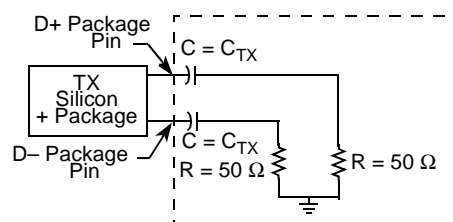

Figure 16. Test Measurement Load
Notes: <ol style="list-style-type: none"> <li>1. No test load is necessarily associated with this value.</li> <li>2. Specified at the measurement point into a timing and voltage test load as shown in Figure 16 and measured over any 250 consecutive Tx UIs.</li> <li>3. A <math>T_{TX-EYE} = 0.75</math> UI provides for a total sum of deterministic and random jitter budget of <math>T_{TX-NAX-JITTER} = 0.25</math> UI for the transmitter collected over any 250 consecutive Tx UIs. The <math>T_{TX-EYE-MEDIAN-to-MAX-JITTER}</math> median is less than half of the total Tx jitter budget collected over any 250 consecutive Tx UIs. It should be noted that the median is not the same as the mean. The jitter median describes the point in time where the number of jitter points on either side is approximately equal as opposed to the averaged time value.</li> <li>4. The DSP device SerDes transmitter does not have a built-in <math>C_{TX}</math>. An external AC coupling capacitor is required.</li> </ol>
Notes: <ol style="list-style-type: none"> <li>1. No test load is necessarily associated with this value.</li> <li>2. Specified at the measurement point and measured over any 250 consecutive UIs. The test load in Figure 16 should be used as the Rx device when taking measurements. If the clocks to the Rx and Tx are not derived from the same reference clock, the Tx UI recovered from 3500 consecutive UI must be used as a reference for the eye diagram.</li> <li>3. A <math>T_{RX-EYE} = 0.40</math> UI provides for a total sum of 0.60 UI deterministic and random jitter budget for the Transmitter and interconnect collected any 250 consecutive UIs. The <math>T_{RX-EYE-MEDIAN-to-MAX-JITTER}</math> specification ensures a jitter distribution in which the median and the maximum deviation from the median is less than half of the total. UI jitter budget collected over any 250 consecutive Tx UIs. It should be noted that the median is not the same as the mean. The jitter median describes the point in time where the number of jitter points on either side is approximately equal as opposed to the averaged time value. If the clocks to the Rx and Tx are not derived from the same reference clock, the Tx UI recovered from 3500 consecutive UI must be used as the reference for the eye diagram.</li> <li>4. It is recommended that the recovered Tx UI is calculated using all edges in the 3500 consecutive UI interval with a fit algorithm using a minimization merit function. Least squares and median deviation fits have worked well with experimental and simulated data.</li> </ol>
- Specified at the measurement point into a timing and voltage test load as shown in Figure 16 and measured over any 250 consecutive Tx UIs.
The AC timing and voltage parameters must be verified at the measurement point. The package pins of the device must be connected to the test/measurement load within 0.2 inches of that load, as shown in Figure 16.